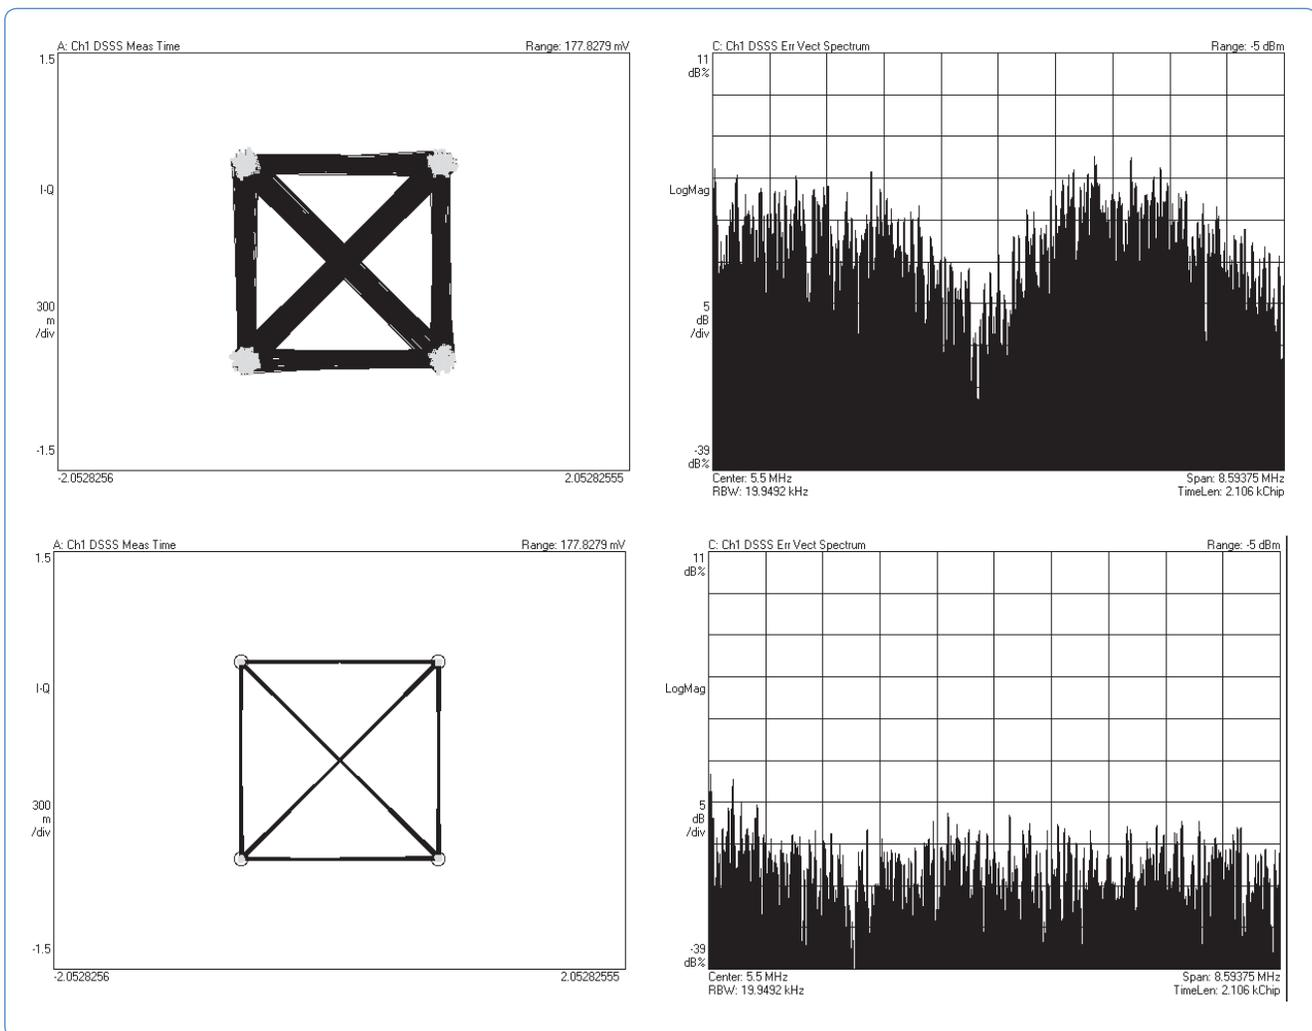

Figure 13. 802.11b error vector spectrum and constellation before (top) and after (bottom) extended calibration¹
1. Figure 13 shows an example of the extended calibration built-in utility in the 89601A software using an 89640A at 2.4 GHz.